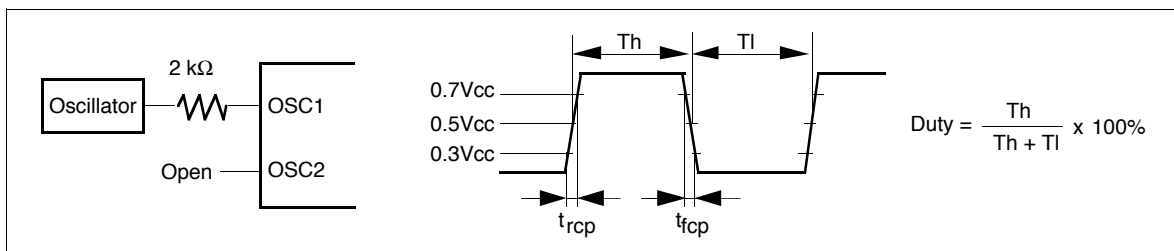

Figure 58 External Clock Supply
9. Applies to the external clock input (figure 58).